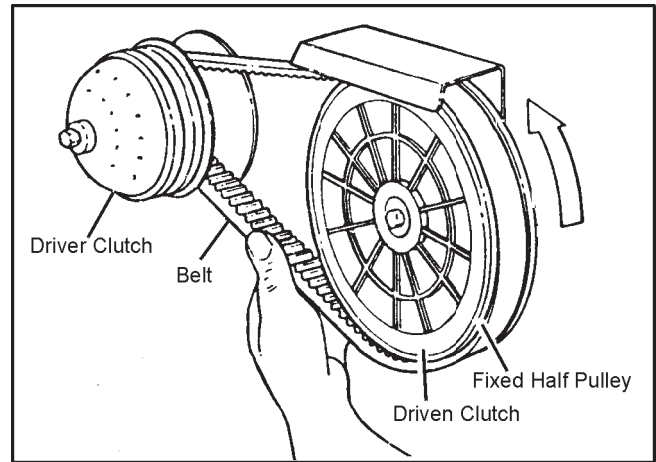

Figure 7-2. Removing the drive belt
4. Ease the belt over the fixed half pulley of the driven clutch starting from the bottom of the clutch, while turning the clutch counterclockwise until the belt is off (Figure 7-2).